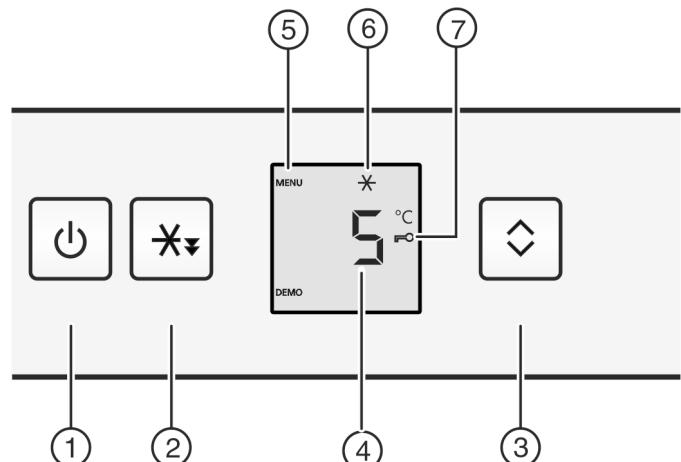

Fig. 2
- Press the On/Off button Fig. 2 (1).
- Press the Quick Cool button Fig. 2 (2) for around 5 seconds.
- The Menu symbol is shown on the display, Fig. 2 (5).
- Confirm by briefly pressing the Quick Cool button Fig. 2 (2).
- The child lock symbol, Fig. 2 (7), lights up on the display.
- Briefly press the On/Off button Fig. 2 (1).
- Briefly press the Quick Cool button Fig. 2 (2).
- The QuickCool Fig. 2 (6) symbol lights up on the display.
- The Quick Cool Fig. 2 (6) symbol dims on the display.